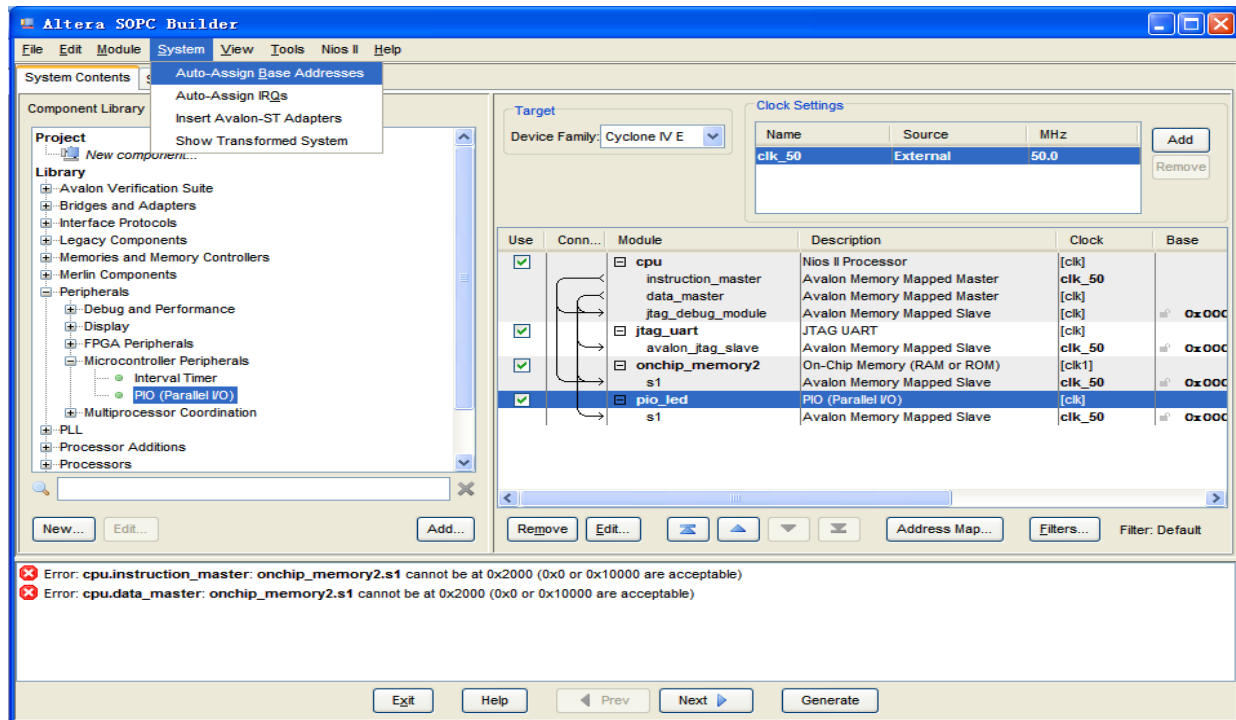

Figure 7-34 Auto-Assign Base Addresses
22. Select **System > Auto-Assign Base Addresses** as shown in **Figure 7-34**. Then, select **File > Refresh System**. After that you will find that there is no error in the message window as shown in **Figure 7-35**.